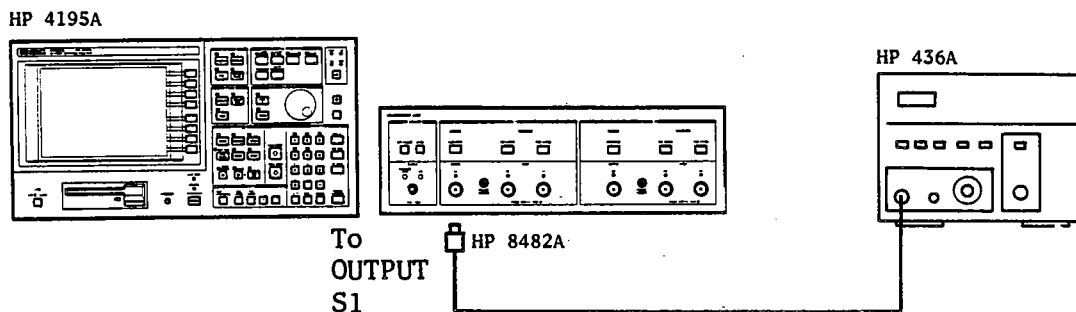

Figure 3-118. Source First IF Converter Gain Adjustment Setup
1. Position the Control and Measurement Units as shown in Figure 3-118, and connect the Interconnection Cables between them.
2. Connect the equipment as shown in Figure 3-118.